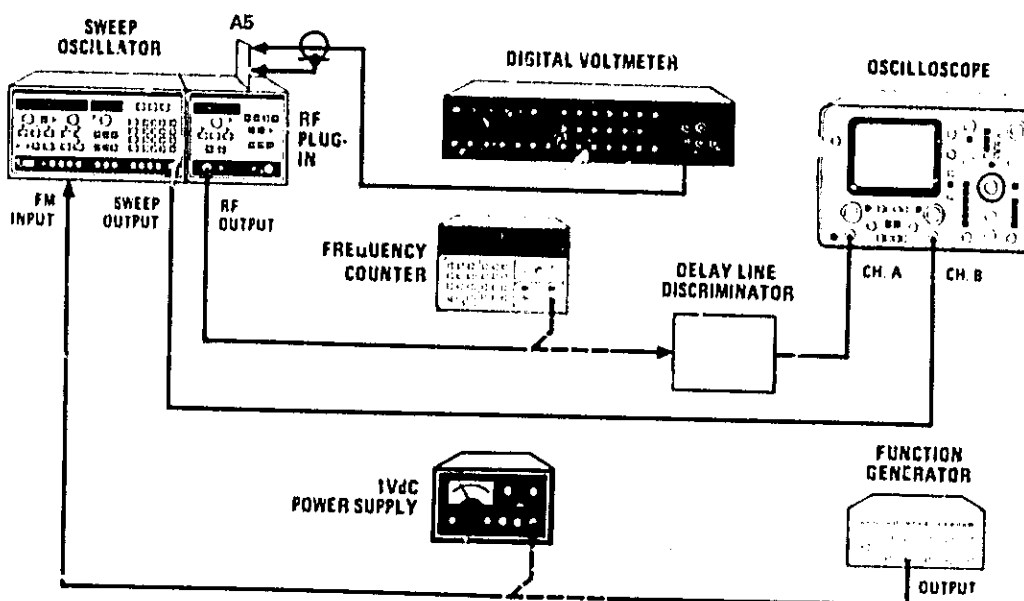

Figure 5-29. Test Setup for FM Driver Adjustments
1. Connect equipment as shown in Figure 5-29 except disconnect function generator from rear panel FM INPUT connector.